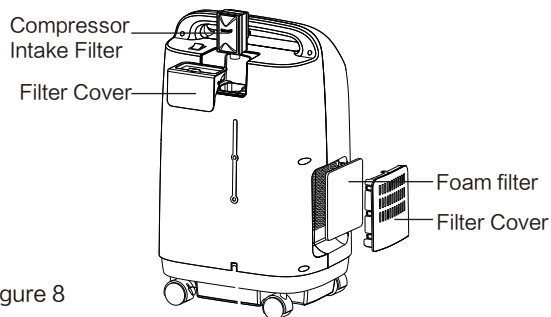

Figure 8
- › Removal: Foam filter is located on the side of the machine, it should be removed from the bottom on the filter cover directly. Compressor intake filter is located on the rear of the machine; it should be removed from the bottom of the filter cover directly. (Figure 8)